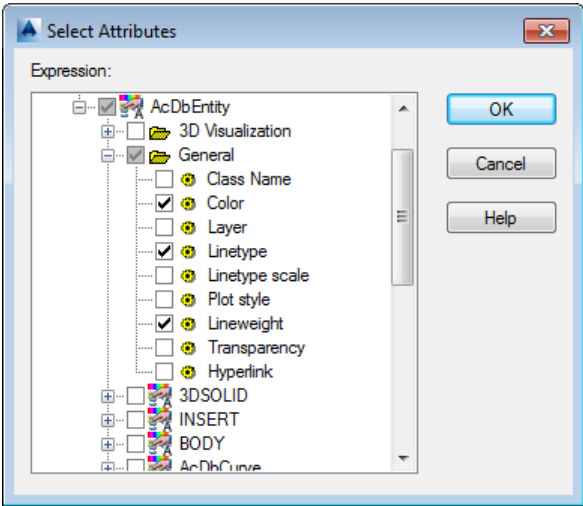

Figure 2-38 The *Select Attributes* dialog box showing various options selected
12. Choose the **Select Attributes** button in the **Export** dialog box; the **Select Attributes** dialog box is displayed. Expand the node **Object Properties > AcDbEntity > General**. Select the check box corresponding to the **Color**, **Linetype**, and **Lineweight** options, refer to Figure 2-38.